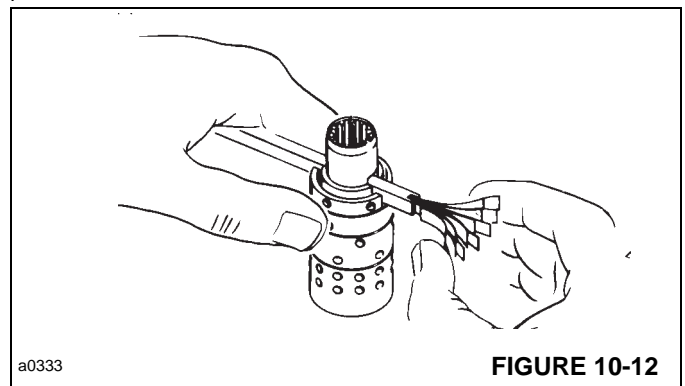

FIGURE 10-12
7. Bring spring slots of both parts in line and stand parts on end on the work bench (Figure 10-12). Insert special spring installation tool through the spring slots of both parts. Position centering springs (in 2 sets of 3 each) on bench so that the extended edge is down and arched center section is together. In this position, insert one end of the entire spring set (all six) into the spring installation tool, as shown in Figure 10-12, with spring notches facing the sleeve.